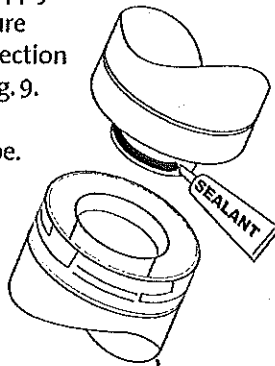

Figure 9. Seal each inner joint before joining pipe.
- **Joint Sealing Requirement:** Apply a 1/8" bead of high-temperature (750°F) sealant to the male section of the inner vent pipe. See Fig.9. The cement should seal the inner pipe from the outer pipe.